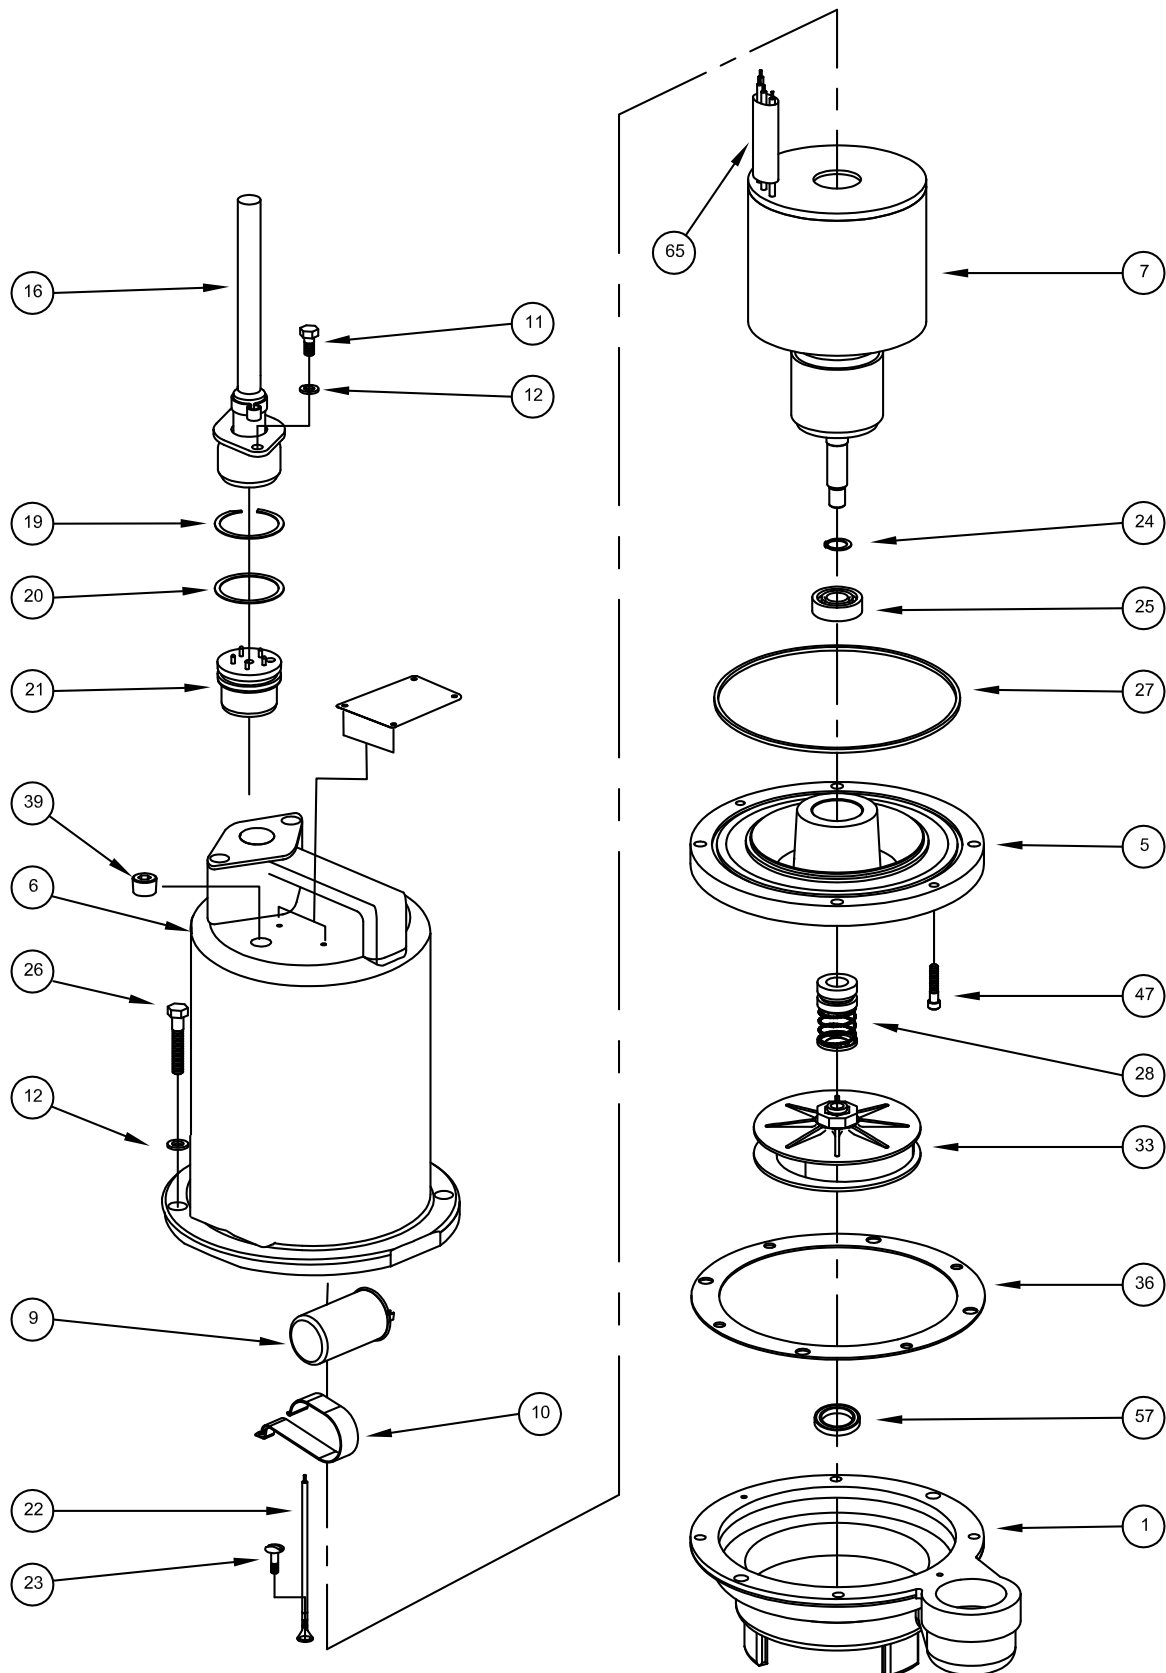

FIGURE 18
**Moisture Sensors** - If pump is equipped with optional moisture sensors, reassemble by applying thread compound to threads on probes (4) and install in upper seal plate (5), see Figures 18 & 19. Connect wire assemblies (53) to probes (4) with washers (46) and machine screws (45).
**Thermal Sensors** - If pump is equipped with optional thermal sensors use terminal connectors (52) to connect wire assemblies (51) to sensor leads. If found to be defective, contact a motor service station or Barnes Pumps Service department.
**Bearings** - When replacing bearing, be careful not to damage the rotor or shaft threads. Clean the shaft thoroughly. Press bearing (25) on the motor shaft, position squarely onto the shaft applying force to the inner race of the bearing only, until bearing seats against the retaining ring (24) (Included with motor).